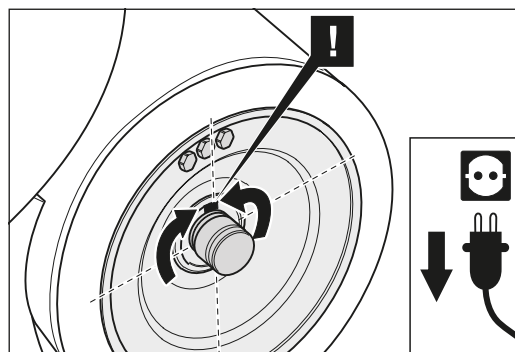

Fig. 76 Turn the sanding drum in such a way that the groove is pointing upwards to ensure that the parallel key is not lost.
- 7 Turn the sanding drum in such a way that the groove is pointing upwards to ensure that the parallel key is not lost (fig. 76).